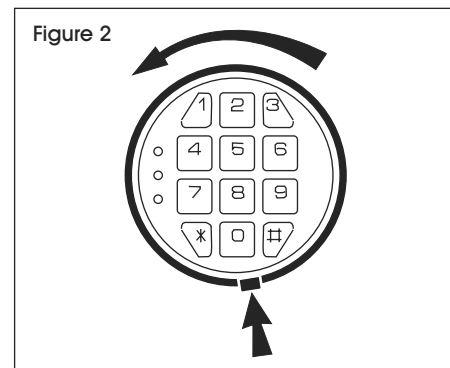

Figure 2
1. To replace battery, remove cover by pressing the tab and turning cover. (See Figure 2)